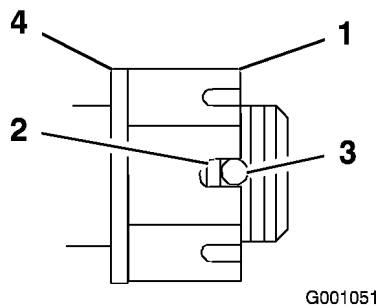

Figure 45
4. Torque the slotted nut to 125 ft-lb (170 N·m) (Figure 45).
- Check the distance from bottom of slot in nut to inside edge of hole. Two threads or less should be showing (Figure 45).
- Torque the slotted nut to 125 ft-lb. (170 N·m) (Figure 45).
- Tighten the nut until the next set of slots line up with the hole in the shaft (Figure 45).